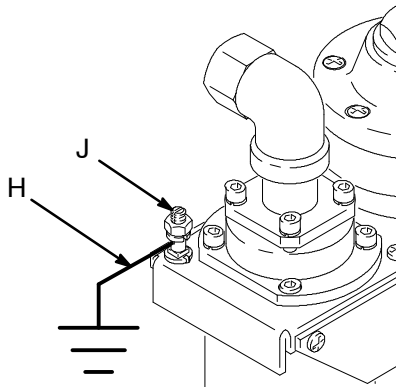

Fig. 2
Connect the ground wire (H) to the grounding point (J) on the collar. See Fig. 2. Connect the ground clamp (K) to a true earth ground. Order Part No. 222011, Ground Wire and Clamp.